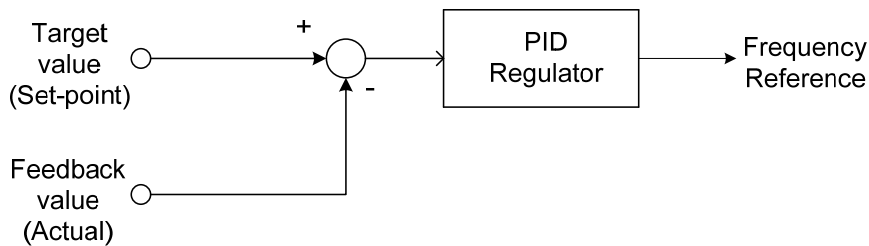

Figure 4.3.28 PID control
- (2). PID input of pulse input (03-30 = 1 or 2)
- When setting 03-30 to 1 (PID feedback value), the pulse serial input to the control terminal PI is regarded as the PID feedback value. When setting 03-30 to 2 (PID target value), the pulse serial input to the control terminal PI is regarded as the PID target value. Please refer to Figure 4.3.28.